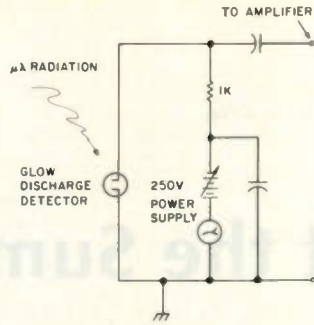
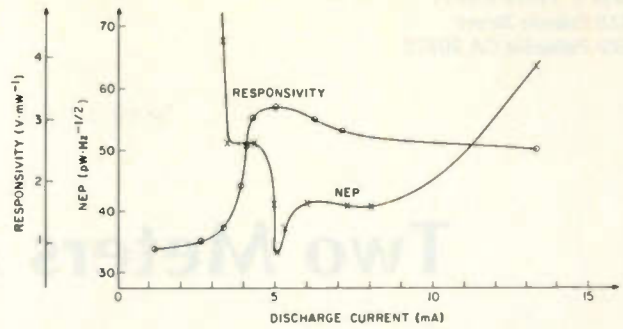

Fig. 1. Glow discharge detector biasing circuit.
Fig. 2. Responsivity and NEP for X-band radiation as a function of discharge current (I) in the NE-84 glow lamp.
Fig. 1 shows the basic setup for experimenting with glow-lamp detectors. The power supply should be well regulated and have a low noise level. The glow tube is positioned in front of the radiation source and connected through a preamplifier to an oscilloscope. The radiation source should be modulated with a function generator or mechanical chopper (fan with metal blades). The bias on the glow tube should be adjusted to a value appropriate to the particular tube you are using. Table 1 lists almost all the common types.⁴ Fig. 2 shows typical detector responsivity (R) plotted against discharge current (I).⁴ Sensitivity is affected by orientation of the lamp in the microwave field. In addition, the diameters of the lamps are about three times the electrode separation — the sensitive detecting area is, therefore, a small part of the lamp cross section. Radia-
The mode in which a glow detector operates is quite simply explained. The gas is partially broken down with a dc source (as in Fig. 1). The microwave electric field enhances random electron velocity and, thus, the ionization collision rate of electrons with neutral atoms in the glow discharge plasma. The microwave envelope is detected as changes in discharge current, which can then be capacitor coupled to an amplifier.